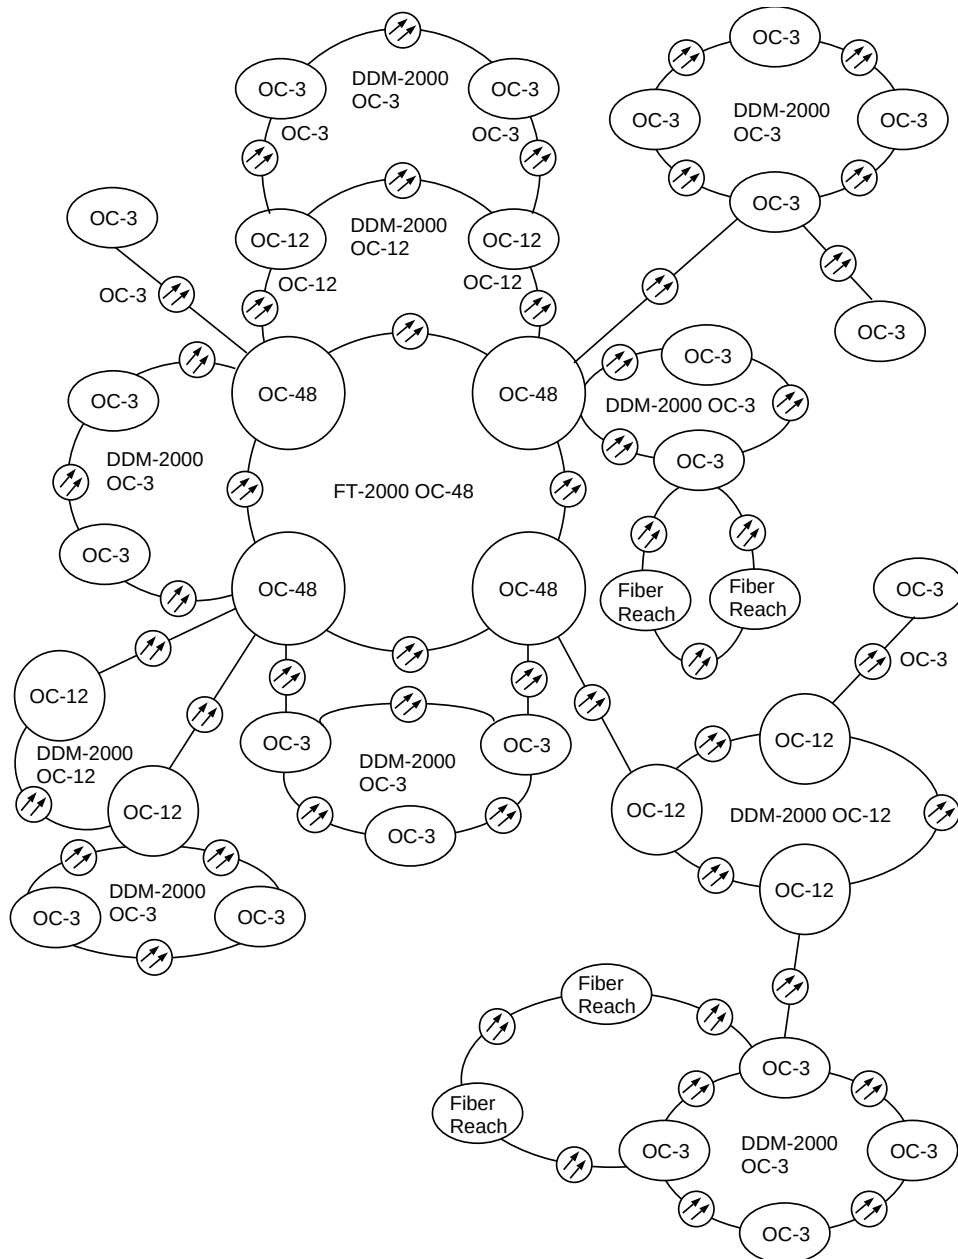
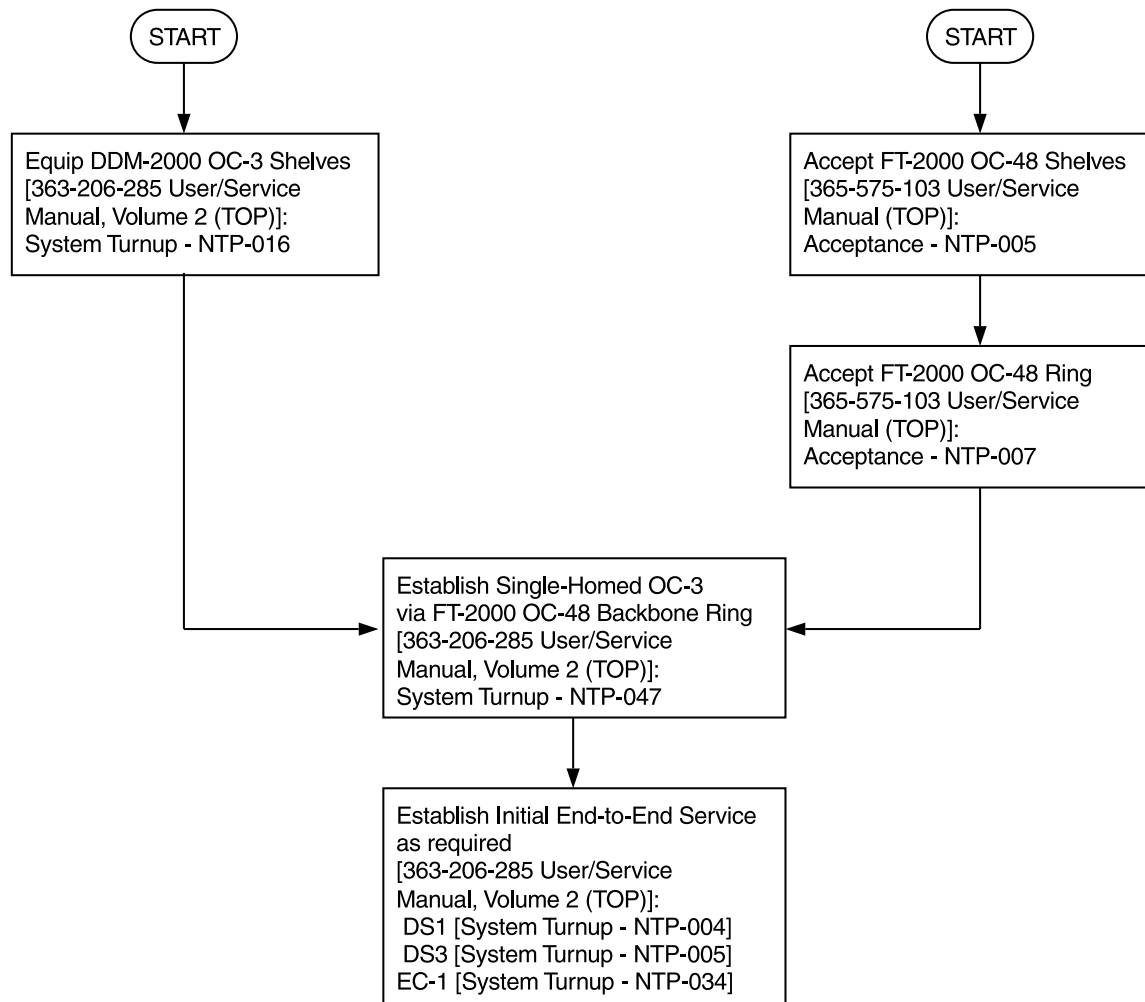
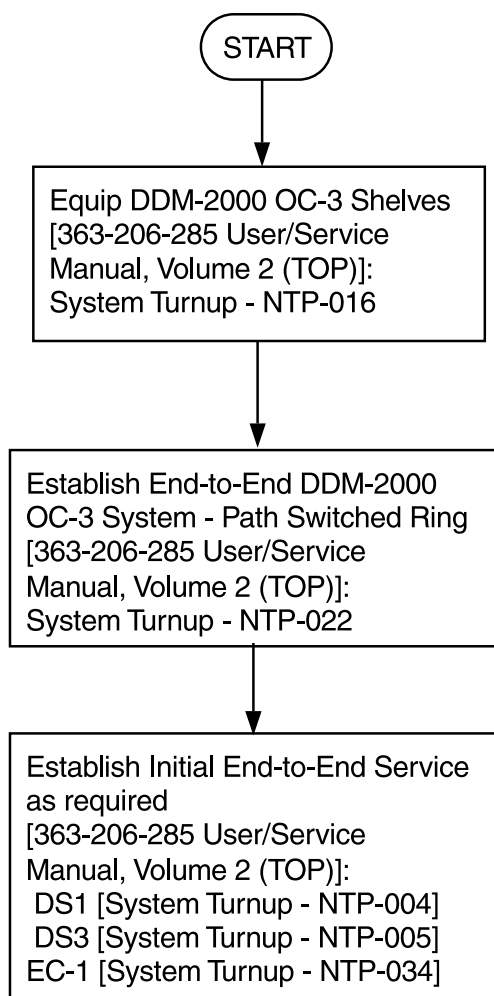

Figure 1. DDM-2000/FT-2000 Large Network Configurations
Figure 2. DDM-2000/FT-2000 Large Network Configurations — Single Homed OC-3 Access via FT-2000 Backbone Ring
Figure 6. DDM-2000/FT-2000 Large Network Configurations — DDM-2000 OC-3 Path Switched Ring
The figures in this section show a variety of subnetwork configurations and associated flow diagrams. Figure 1 depicts a large network configuration consisting of FT-2000 OC-48, DDM-2000 OC-3, OC-12, and FiberReach. The remainder of the figures illustrate individual subnetworks necessary to establish the large network configuration. Some subnetwork configurations can be established as stand-alone subnetworks and added later to the overall large network configuration (For Example, the OC-3 ring subnetworks in Figures 6 and 7). Other subnetworks require you establish the host subnetwork first (For Example, the single-homed OC-3 access ring via the FT-2000 ring in Figures 2 and 3). The shaded areas in each figure show the configuration being established.
- Figure 2 Single-Homed OC-3 Access via FT-2000 Ring
- Figure 6 End-to-End DDM-2000 OC-3 Path Switched Ring System